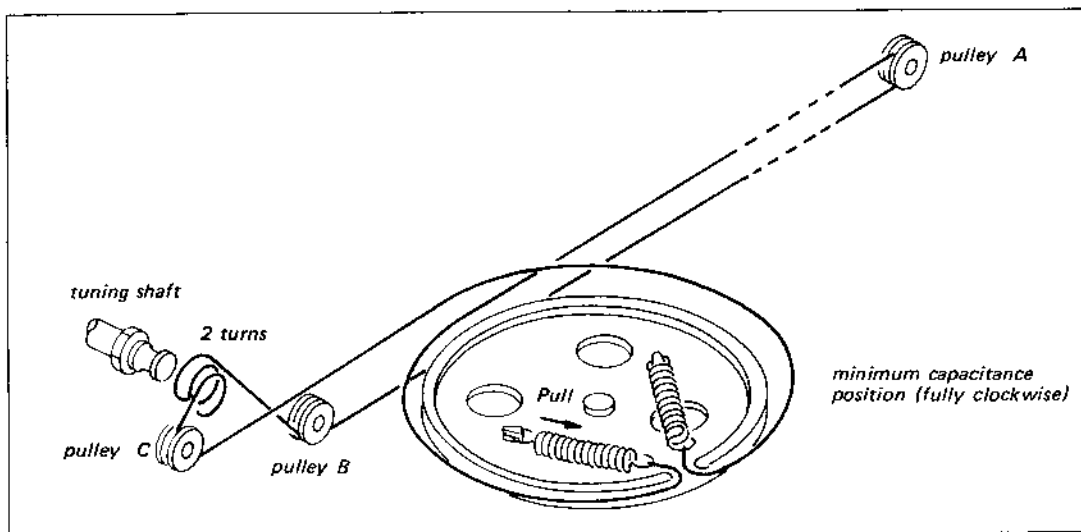

Fig. 2-5 Complete dial cord stringing
6. Run the cord over pulleys *A* and *B*, and wrap two turns counterclockwise around the tuning shaft. See Fig. 2-5.
7. Run the cord over pulley *C* and wrap a half turn clockwise around the drive-drum. See Fig. 2-5.
9. Pull the cord and tie it to the end of the spring to give it the proper tension while stretching the coil spring. See Fig. 2-5.